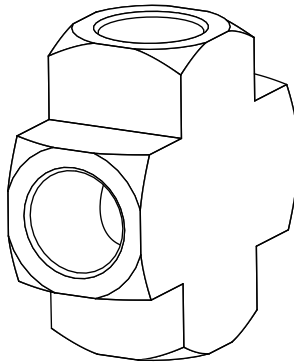

Figure 1
The Series 240 Manifolds can be used either with two cylinders (one on each side) or with multiple cylinders on each side. All systems will come with a multi-port adapter for connection of up to 3 cylinders per side. See Figure 1. Ports that are not used must be plugged. All plugs must be sealed with Teflon tape and wrench tightened.
6. Install the multi-port adapter (Figure 1) to both the right and left side inlet connections using the hardware provided. All connections require Teflon tape as a thread sealant and must be wrench tight.